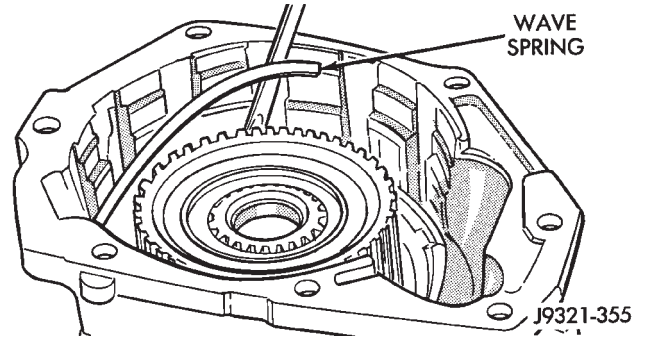

Fig. 64 Overdrive Clutch Wave Spring Installation
- (2) Install wave spring on top of reaction ring (Fig. 64). **Reaction ring and wave ring both fit in same ring groove.** Use screwdriver to seat each ring securely in groove.